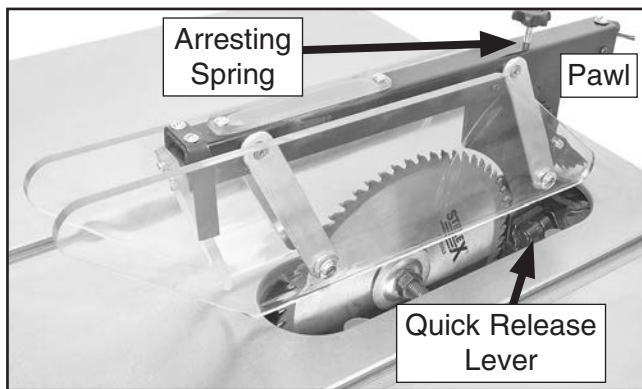

Figure 46. Spreader installed (*insert removed for clarity*).
- Flip quick release lever up, insert spreader into spreader adjustment bracket, then push lever down completely to secure spreader (see **Figure 46**).